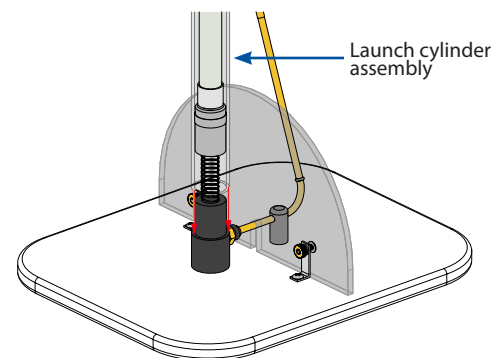

Figure 4
4. Slide the bottom of the launch cylinder assembly over the piston assembly, spring, and the tube support mount (Figure 4). Be sure that the launch cylinder is seated completely onto the tube support mount.